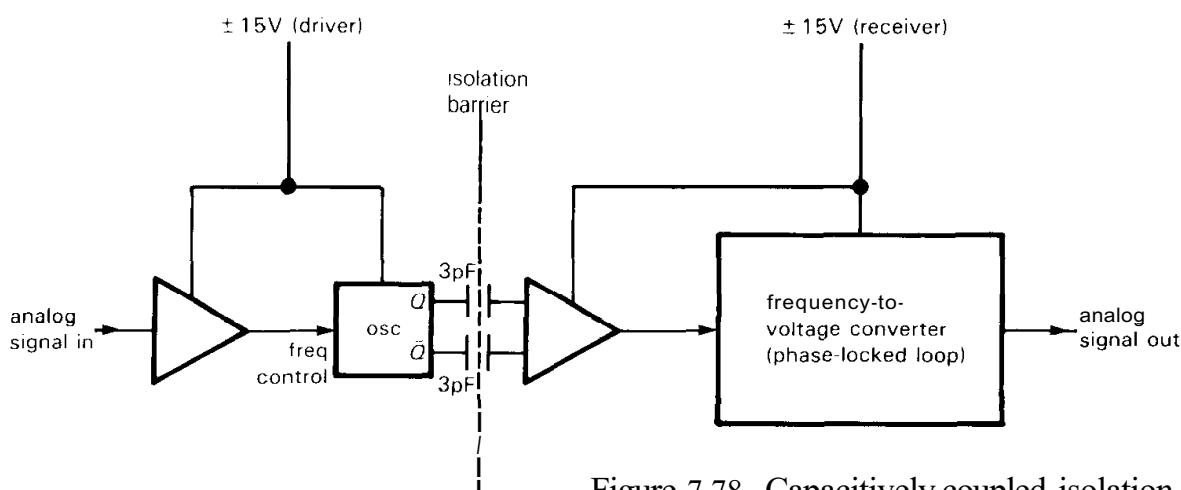
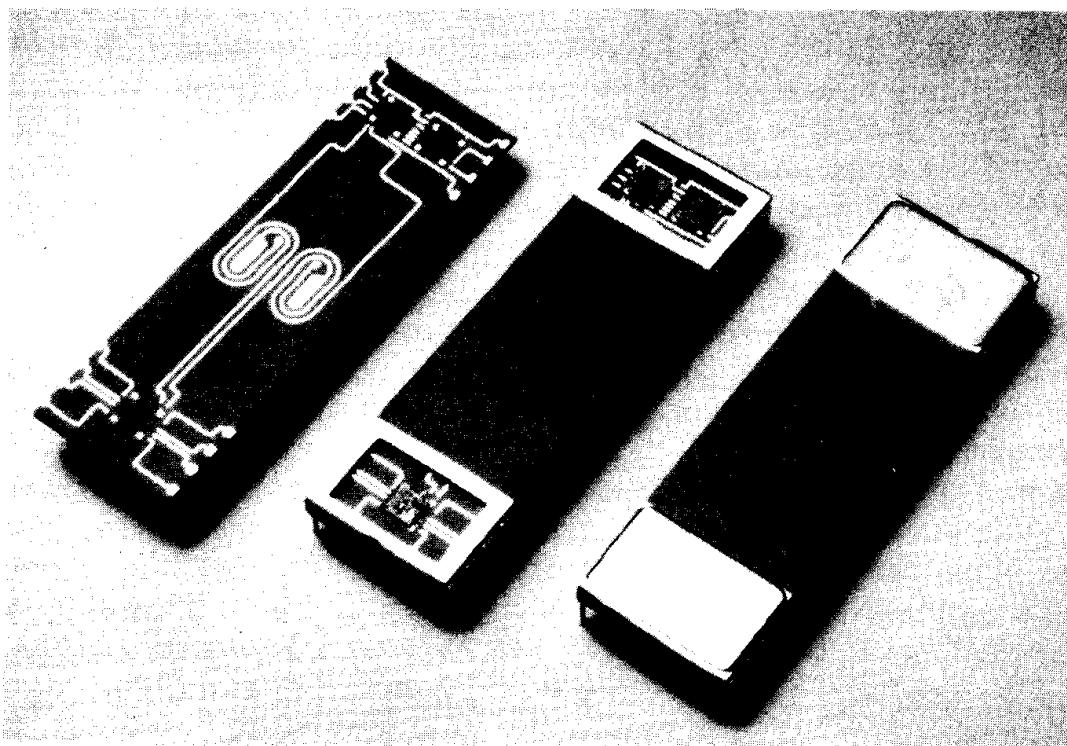

Figure 7.78. Capacitively coupled isolation amplifier.
Figure 7.79. Burr-Brown IS0106 isolation amplifier. (Courtesy of Burr-Brown Corporation.)
**3. Capacitively coupled isolation of a high-frequency carrier signal, which is frequency-modulated with the signal to be isolated (Fig. 7.78).** This technique is typified by the ISO102, ISO106, and ISO122 from Burr-Brown (Fig. 7.79). There is no feedback, as with transformer isolation, but for most models you need power supplies at both ends. This usually isn't a problem, since you are likely to have electronics at both ends, generating and using the signal. If not, you can get an isolated